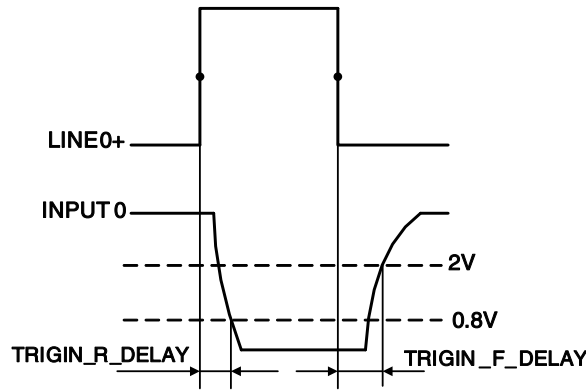

Figure 7-4 Parameter of opto-isolated input circuit
- Rising edge delay: <math>< 50\mu\text{s}</math> ($0^{\circ}\text{C}\sim 45^{\circ}\text{C}</math>), parameter description as shown in Figure 7-4$
- Falling edge delay: <math>< 50\mu\text{s}</math> ($0^{\circ}\text{C}\sim 45^{\circ}\text{C}</math>), parameter description as shown in Figure 7-4$